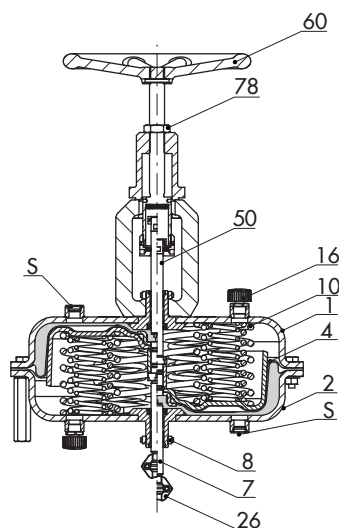

Fig. 11: Type 3271 with 750v2 cm² and additional handwheel
- **Type 3271 or Type 3277 · Additional handwheel** for actuators with actuator areas from 175v2 to 750v2 cm² (Fig. 6 and Fig. 11)